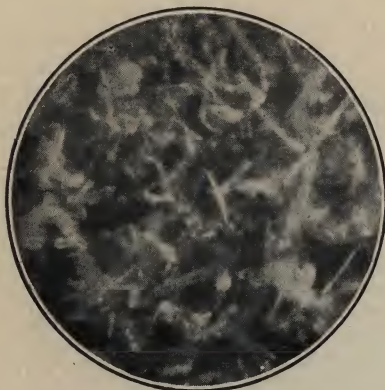
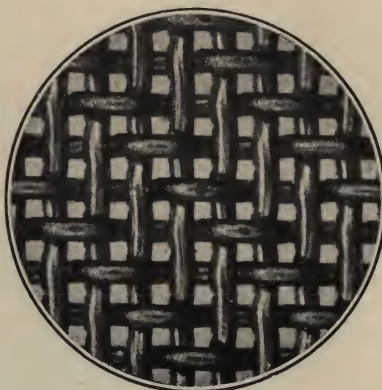

Fig. 1. Press cake of Filter-Cel.
Fig. 2. Metal filter screen, 60 x 60 mesh.
*Fig. 1 shows a section of a press cake of filter aid under the microscope. The pore channels through a mat of the filter aid, just visible even at high magnification, are much smaller than the finest particles of any suspended precipitate. In comparison, the metal filter screen and closely-woven filter cloth, shown in Figures 2 and 3, are "open sieves" which can retain only the coarse solid particles occurring in the liquids being filtered*